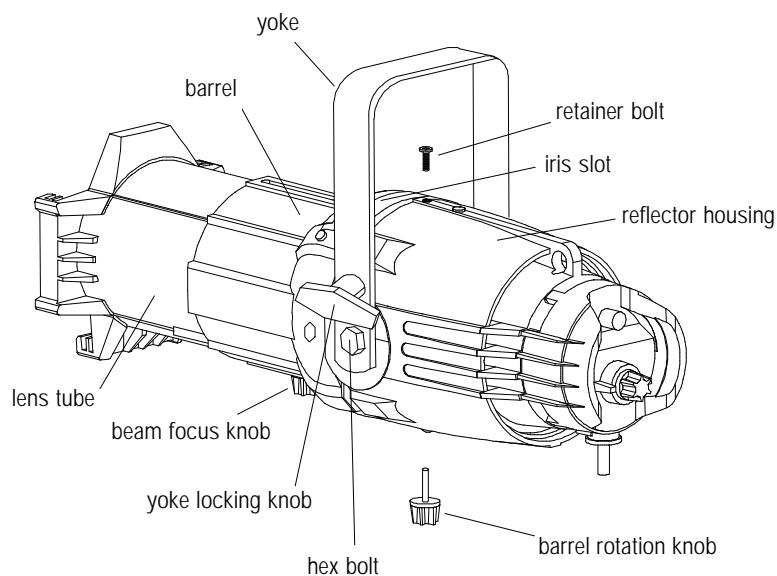

Figure 1
*\*Refer to Figure 1 below for part/s location.*
*\*Looking at the reflector housing -- the housing has three (3) holes in the casting --- one 1/4"-20 hole where the barrel rotation knob is screwed in and two 5/16" holes that secures the fixture to the yoke.*